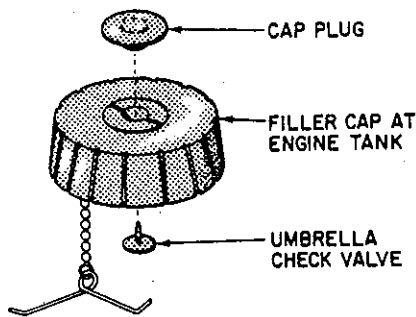

Figure 3. Integral fuel tank cap has umbrella type check valve.
- (1) Open fuel shut-off valve.
- (2) The filler cap on engine tank is equipped with a polyethylene cap plug protecting the two entrenched air vents that automatically supply air through the cap passages and escape out the rubber umbrella check valve into the tank. The rubber umbrella's check valve will also seal off gasoline from escaping out through the filler cap when outboard motor is being transported. Gasoline pressurizes the umbrella to prevent fuel from escaping. (See Figure 3).